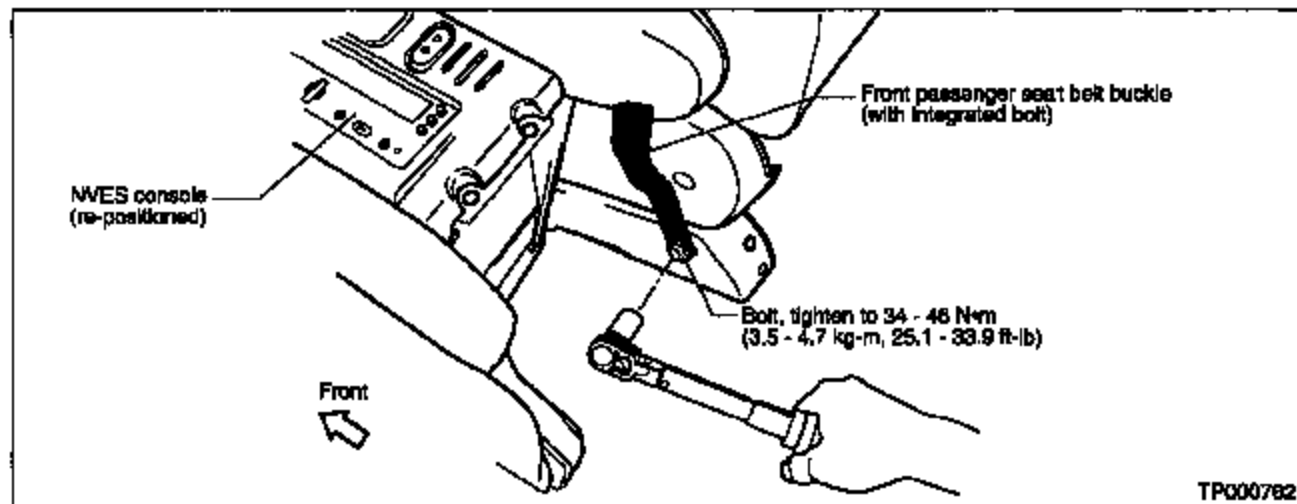

Figure 4
4. Install the new seat belt buckle and tighten the mounting bolt to 34 – 46 Nm (3.5 – 4.7 Kg-m, 25.1 – 33.9 ft-lbs). See Figure 4.